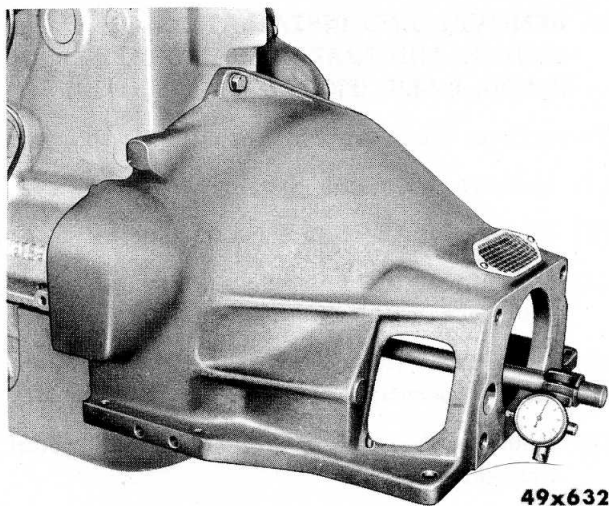

Fig. 18—Checking Rear Face of Housing
- (4) Change the position of the dial indicator and check the rear face of the housing, as shown in Figure 18. This tolerance must be within .002 inch. Assuming that all burrs and dirt have been removed, as described in Step (1), this tolerance should be within the specified limits.